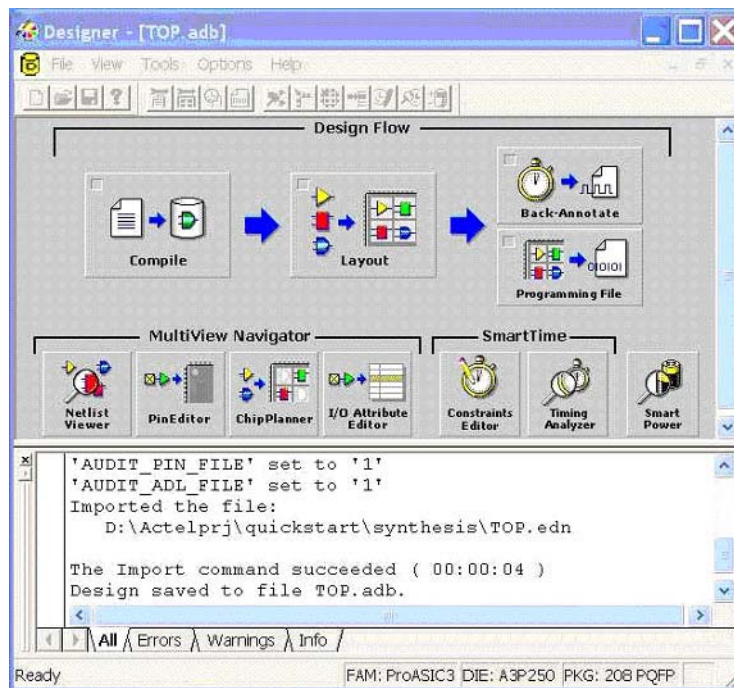
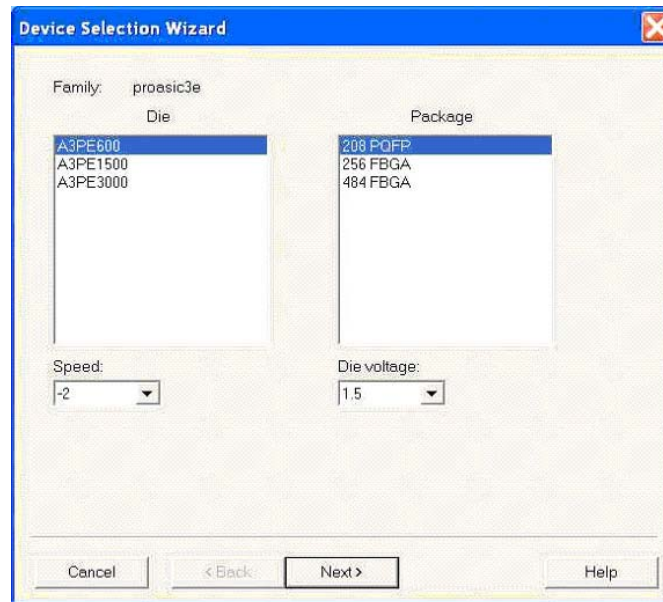
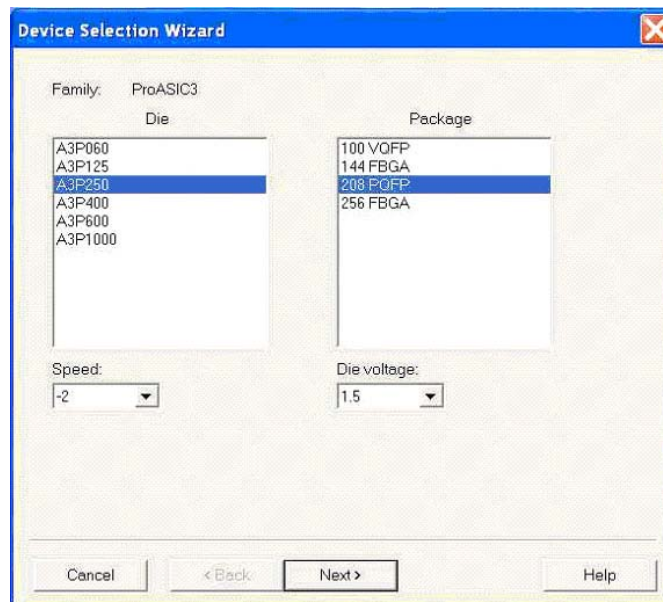

Figure 7-28 • Designer GUI
Figure 7-29 • Device Selection Wizard-A3PE600
Figure 7-30 • Device Selection Wizard—A3P250
1. Click Designer **Place-and-Route** in the Libero IDE Design Flow window, or right-click **Top.vhd** in the **Design Hierarchy** tab and select **Run Designer**. Designer (Figure 7-28) reads in the design file and opens the Device Selection Wizard (Figure 7-29 on page 55 for A3PE600 and Figure 7-30 on page 55 for A3P250).